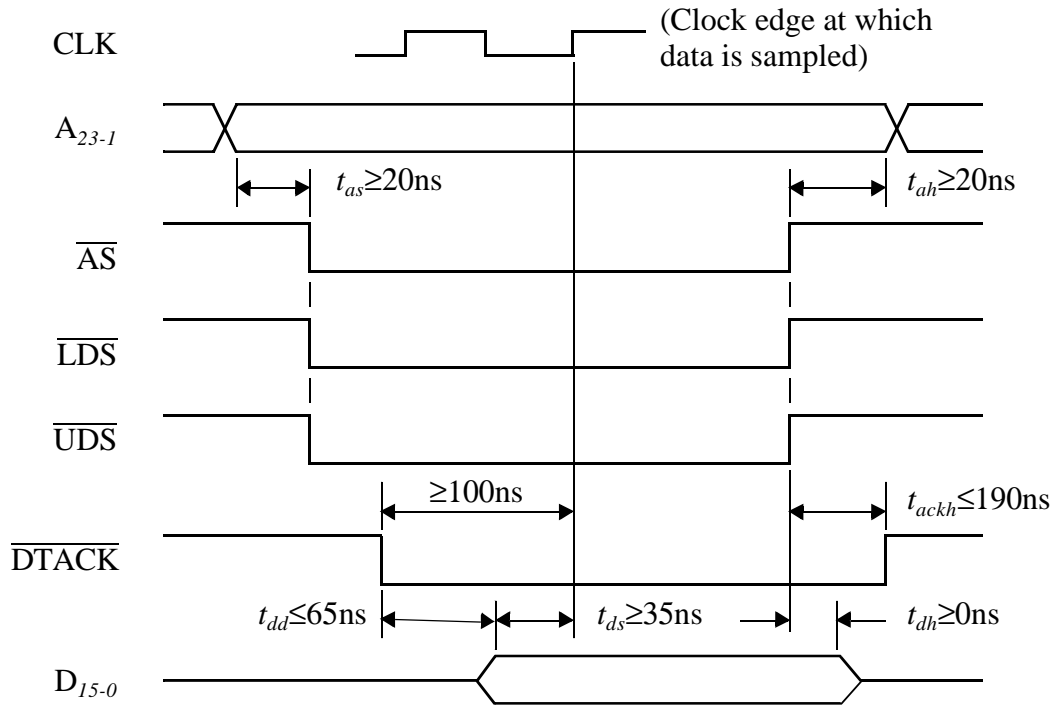

Figure 26 - Timing Diagram for a Read Operation on the M68000 Bus
A read operation proceeds as shown in Figure 26. The processor transmits the address and then asserts \overline{AS} , after an address setup time t_{as} of at least 20 ns. It asserts \overline{LDS} and \overline{UDS} at the same time to request data from the addressed device. The device responds by placing the data on the bus and asserting \overline{DTACK} . In doing so, it must guarantee that the data is valid on the data lines no later than 65 ns after \overline{DTACK} is asserted.
- Design the circuitry needed to interface the SFPGA to the M68000 bus with timing as shown in Figure 26. Make sure that your design handles both byte and word operations correctly. Pay special attention to the timing of \overline{DTACK} , and remember that it is an open-collector signal.